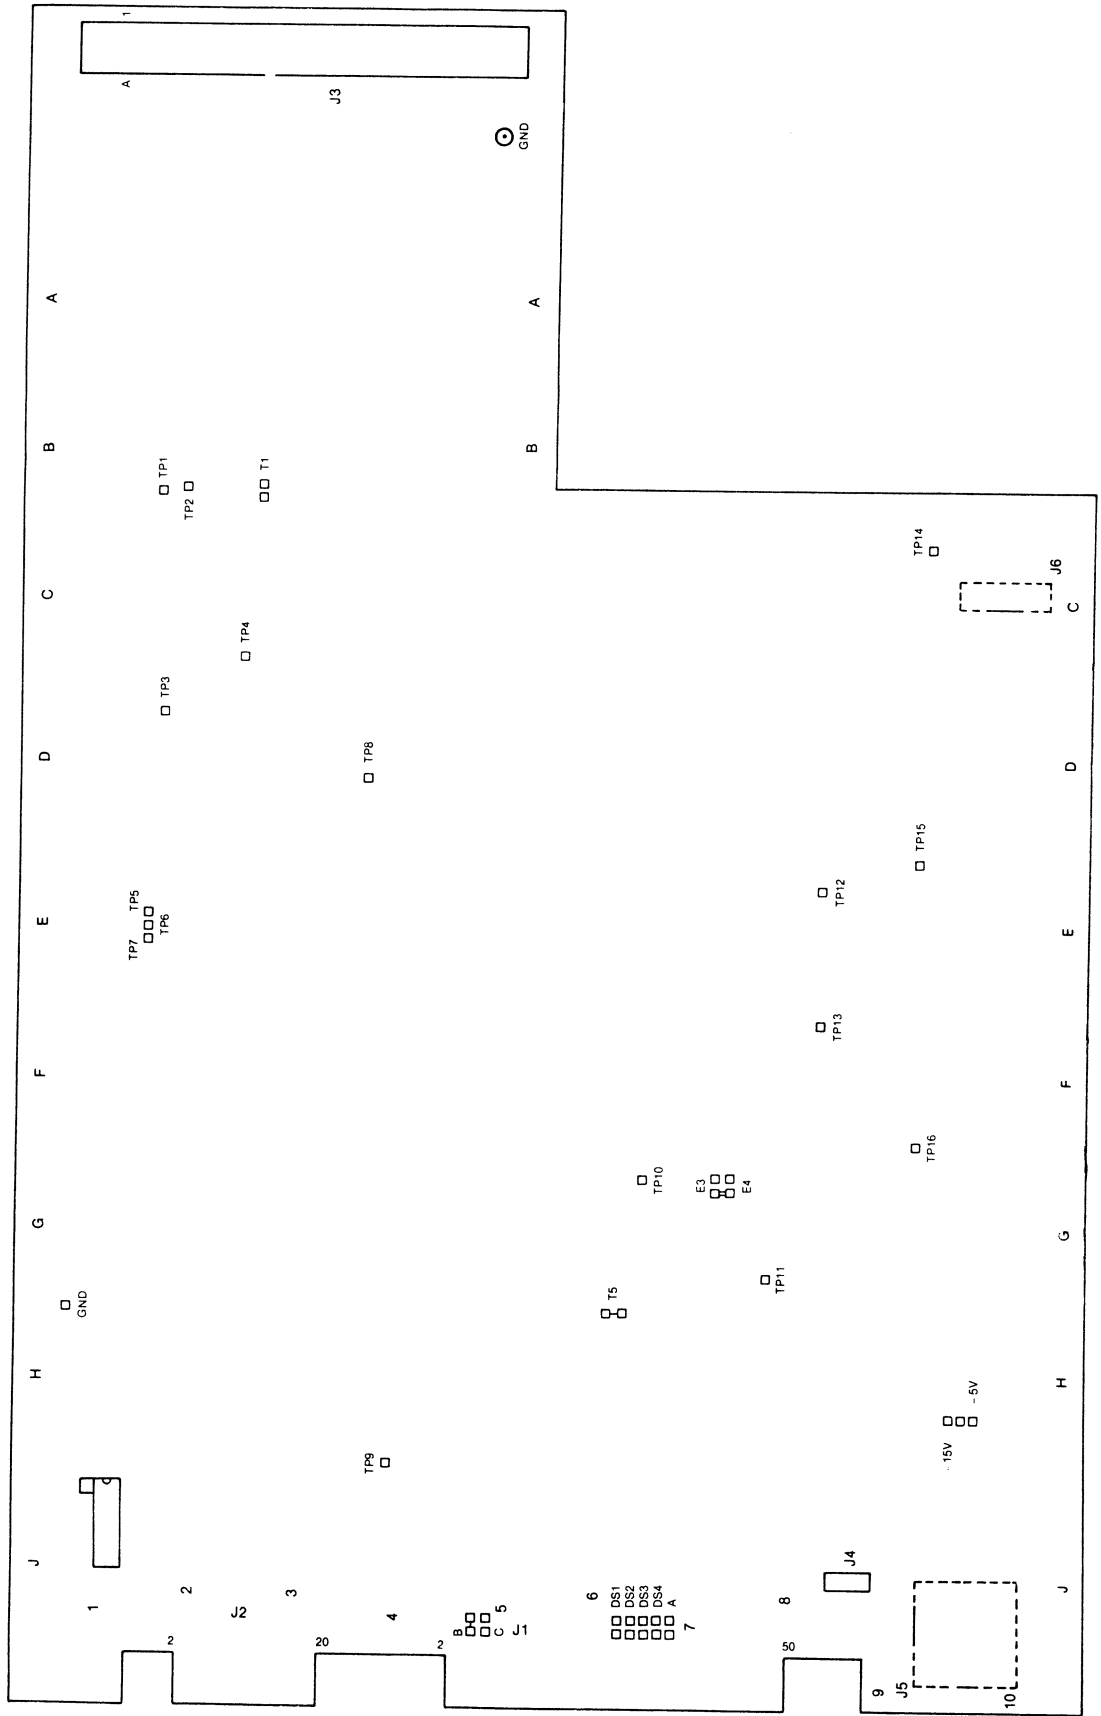

Figure 23. PCB Jumper Locations
11.5.1 Jumper Options (Fig. 23)